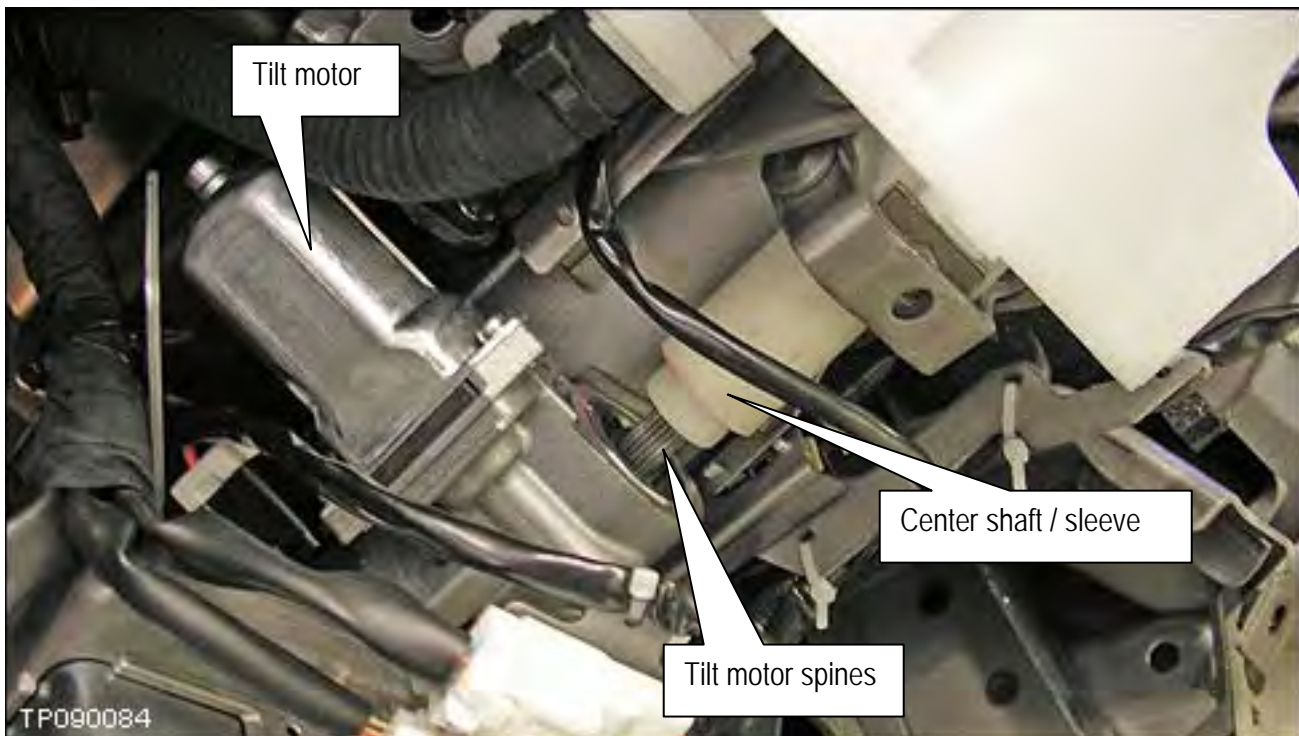

Figure 27
- c. Line up the tilt motor spines with the center shaft / sleeve as shown in Figure 27.